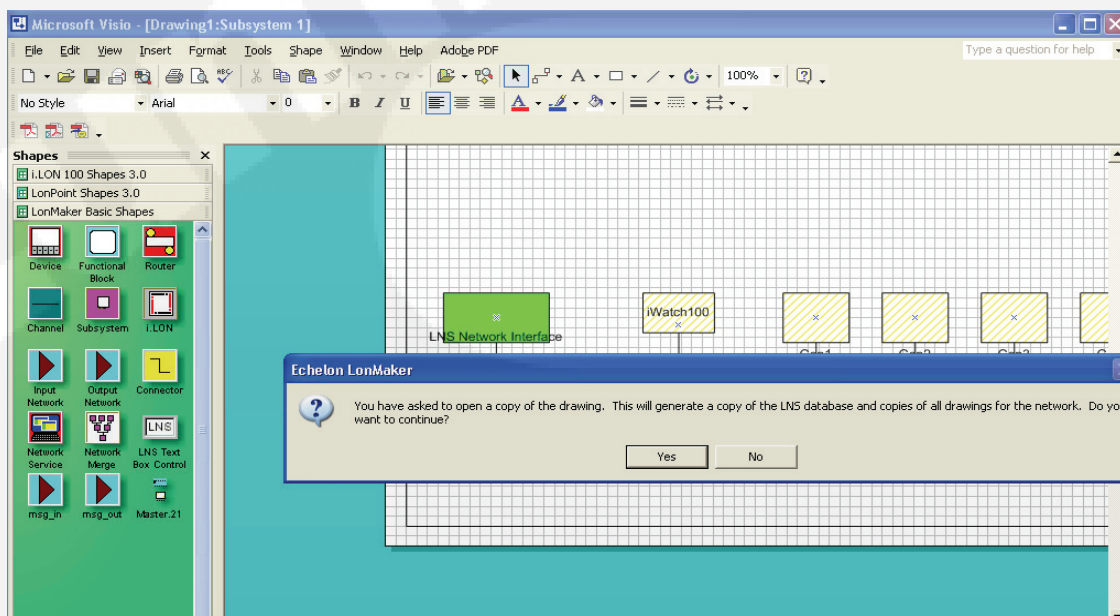

FIGURE 4-21. OPENING A TEMPLATE DATABASE
7. When asked if you want to continue, click **Yes** (see Figure 4-21).